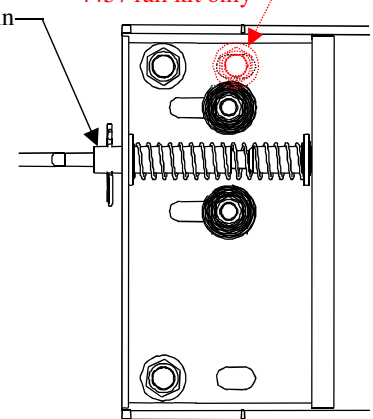

Figure 2
8. Touch up the drilled holes with paint. Install the U-Bolts from the inside of the bed (see figure 2).